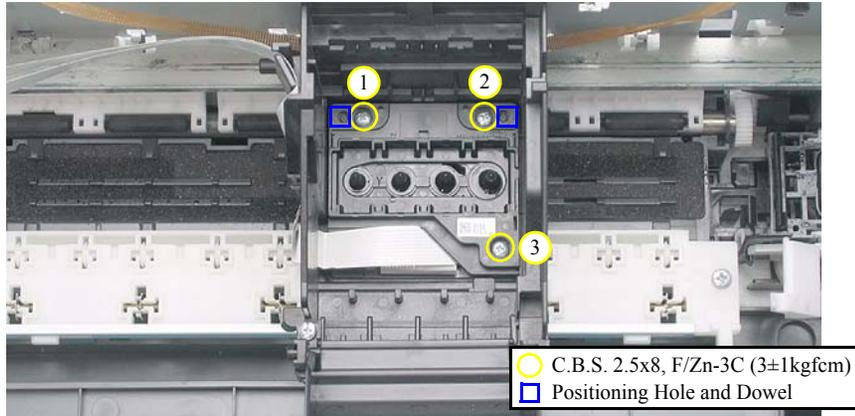

Figure 7-52. Removing the Printhead (1)
- Tighten the screws in the order given in Figure 7-52.